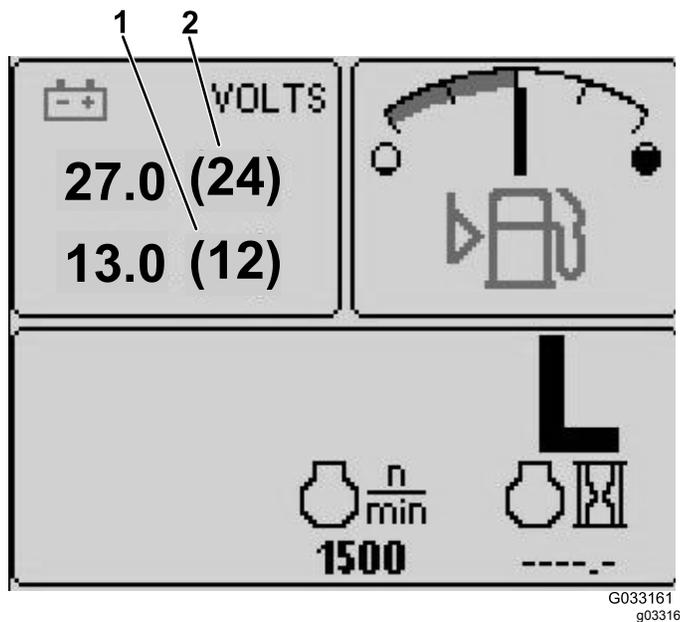

Figure 17
- 12 V battery-voltage indicator—top, left screen (Figure 17)
- 24 V battery-voltage indicator—top, left screen (Figure 17)
This display shows both the 12 V and 24 V battery voltage (Figure 17).